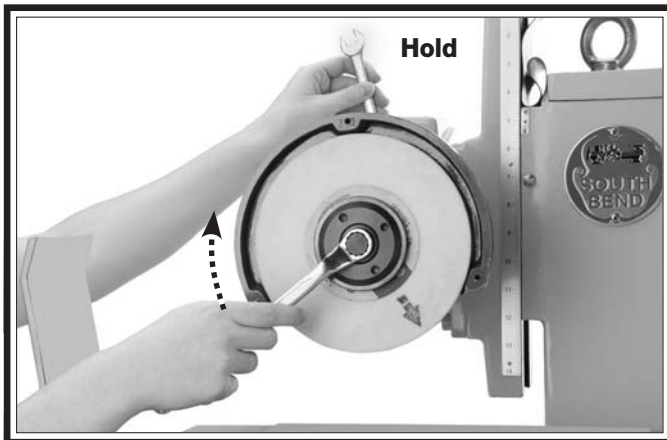

Figure 23. Hub removal.
5. Using the wrenches, turn the spindle bolt clockwise as shown in **Figure 23**.